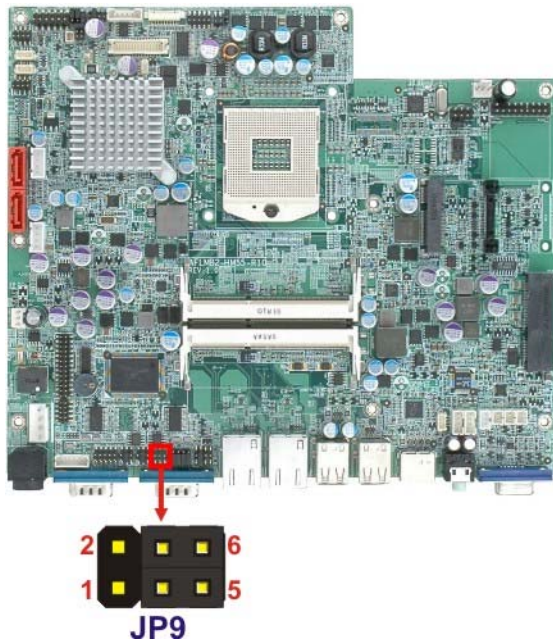

Figure 3-10: COM3 TX Function Select Jumper Location
- Jumper Location:** See Figure 3-10
The COM3 TX Function Select jumper location is shown in **Figure 3-10** below.